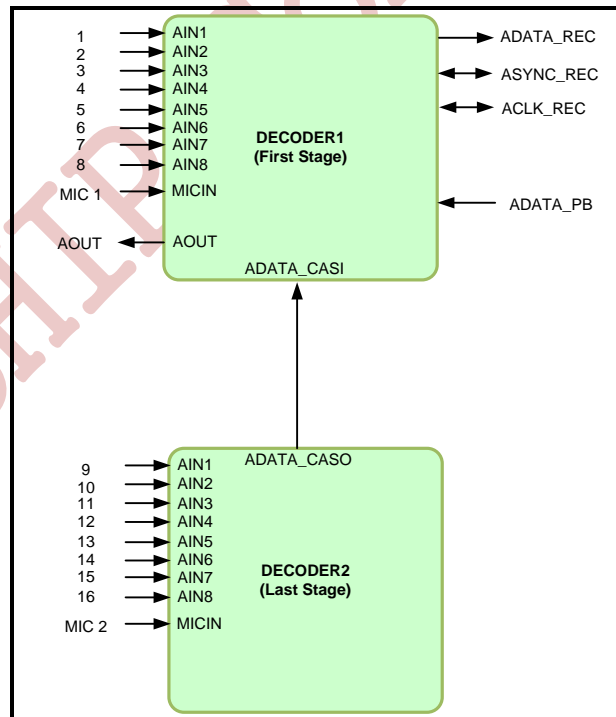

Figure 3.10 Consist of Cascade System using 2-NVP6134
**NVP6134** supports cascade mode. Maximum 2-**NVP6134** chips can be connected together for cascade mode and can be processed 18 channel audio encoding data(16-Ch Audio/2-Ch mic). Cascade is enabled by setting register(**CHIP\_STAGE**, 0x06[1:0], **BANK1**). Figure 3.10 shows how to connect **NVP6134** for the cascade mode. In this case, analog audio **AOUT1** is assigned to **AIN1-16** and **MICIN1-4**. 1 channel audio or all channel mixed audio signal is selected as output signal set by **MIX\_OUTSEL**(0x23[4:0], **BANK1**).